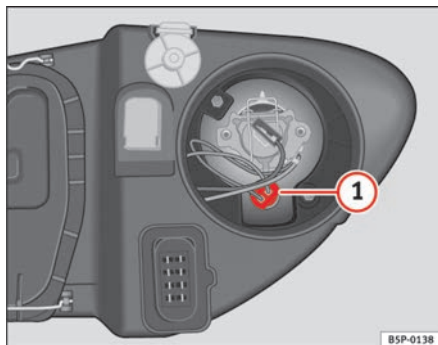

Fig. 183 Side lights
- Extract the lamp holder ⇒ fig. 183 ① outwards.